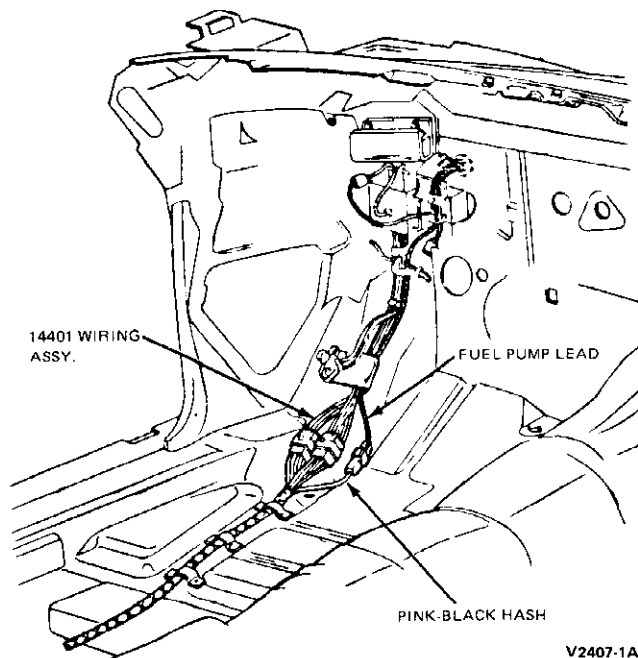

FIG. 8 Connection To Taillight Harness
6. If relay OK, check wire connector to taillight wiring harness near dimmer switch (Fig. 8).